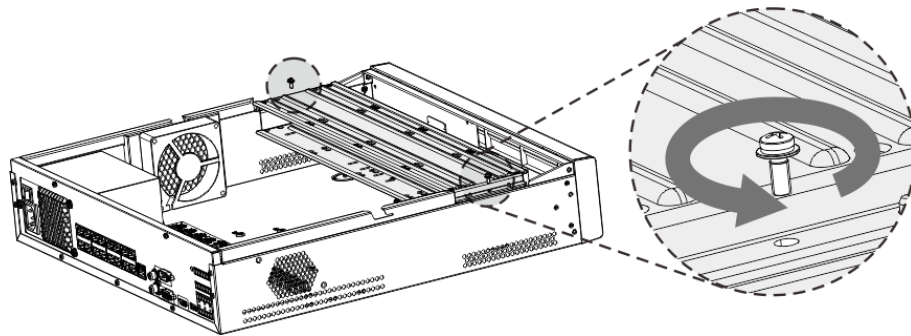

Figure 3-4
- 2U device has two HDD brackets. For the way to remove the brackets, see Figure 3-4.